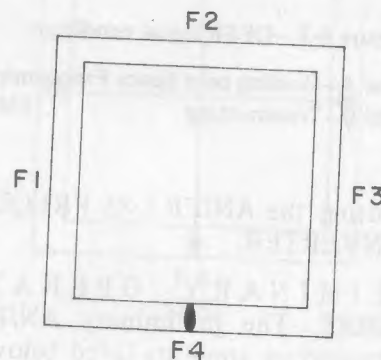

Figure 4-11.—F4 Peaked. 264.37
j. Using the R-390A BFO MICRODIAL and the F4 DEFL GAIN control, position the dot on the CRT between the bottom horizontal lines printed on the plastic overlay on the CRT (see figure 4-11). (This is a crucial step and must be understood thoroughly if proper calibration is to be accomplished.) The dot can be moved by either the BFO MICRODIAL or the F4 DEFL GAIN; however, the object is to position the dot so that it is at its maximum peaking point. In other words, PEAK it with the BFO MICRODIAL and POSITION it with the DEFL GAIN. When the dot is peaked, the input frequency from the R-390A is exactly 7kHz and is represented as such on the AN/FRA-86 by the dot being between the bottom horizontal lines.